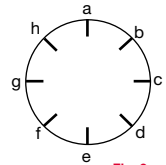

Fig. 3
- Fix the seal into position applying uniform load to diametrically opposite bolts / studs - (see fig. 3).
- Uniformly tighten the screws associated with the seal drive clamp (see fig. 3).
Tightened to 17.7 Nm (13.1 Lbf.Ft) as per fig.3.